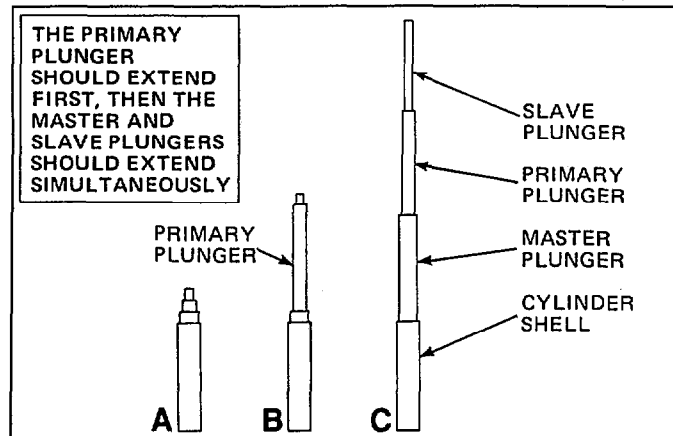

Figure 19. Sequence of Hoist Cylinder Plunger Extension
The hoist cylinder is comprised of three plungers: primary, master, and slave. See Figure 19. When the mast is actuated from the fully lowered position, the primary plunger should extend from within the master plunger to the end of its stroke. Then the master and slave plungers should extend simultaneously to the end of their strokes.
5. sequence valve is not opening. Turn the adjusting nut clockwise **one turn only**. Reinstall the bleed fitting and retest. Continue this process until the cylinder sequences properly. See Figure 19.